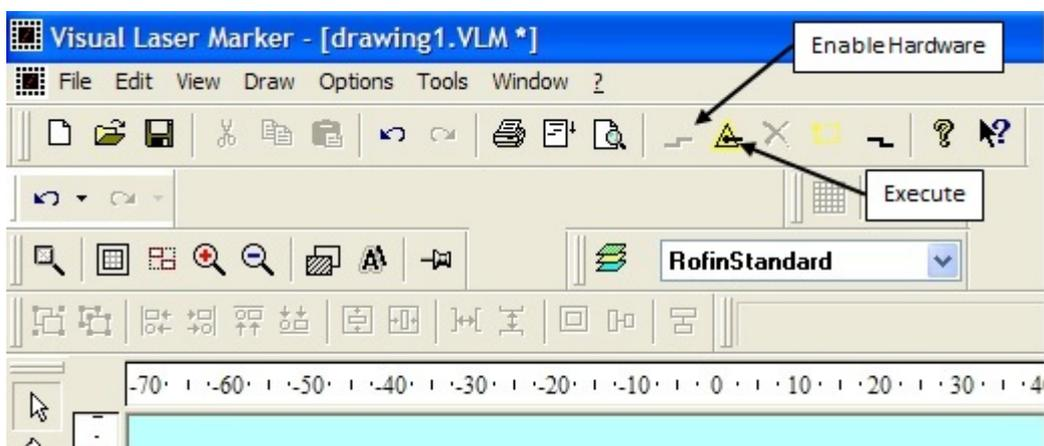

Figure 32: Top toolbar of the VLM software showing the **Enable Hardware** and **Execute** buttons.
3. (Figure 32) Open the Visual Laser Marker software and initialize the hardware by pressing the **Enable Hardware** button on the top toolbar.
4. (Figure 32) Using Section 9, Load/draw your tool path and prepare your laser parameters. Execute the program by pressing the **execute** button located on the top toolbar.